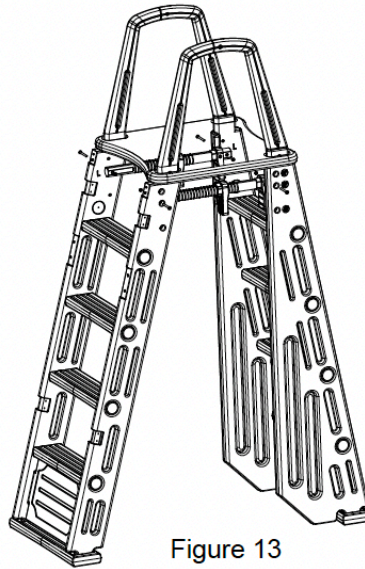

Figure 13
11. After determining the height of the pool fence, align the through-hole of the threaded rod (with pressure plates installed) with the through-hole of the upright post according to the corresponding scale marked on the post. Insert two M6 nuts into the threaded rod and secure them using two M6x60 screws. Install the rod assembly on the other side in the same manner (see Figure 13).